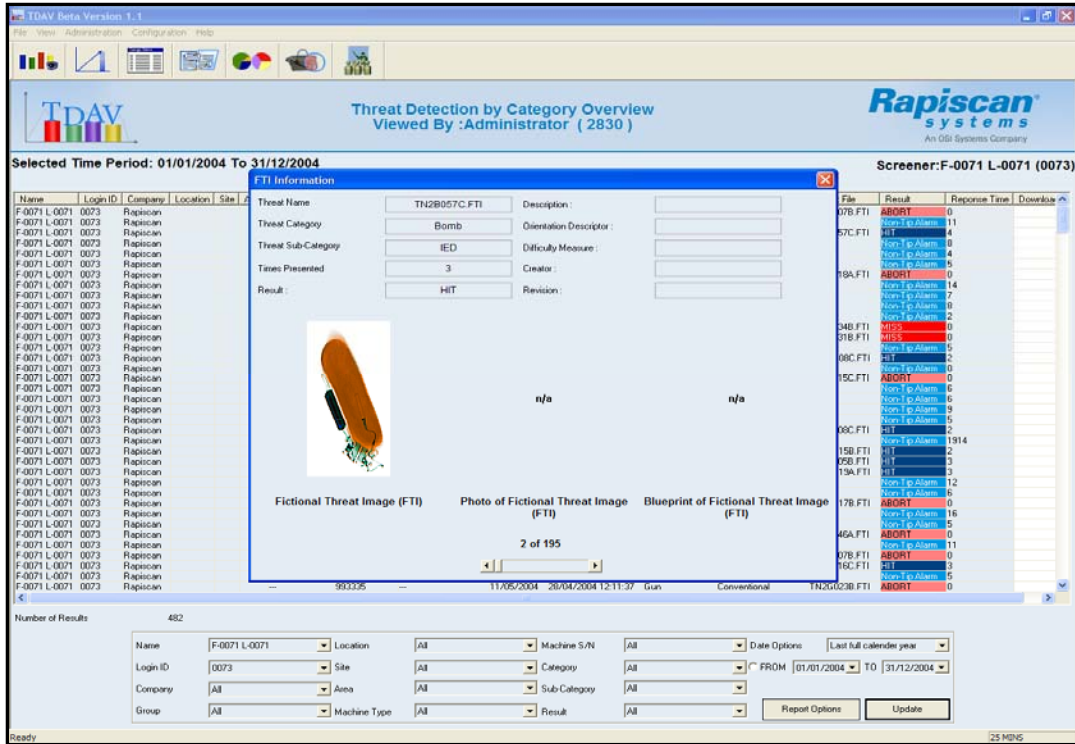

Figure 12 - details pop up with a simple double-click
- By double-clicking on a result, the software will offer a pop up window displaying information about the TIP (Figure 12).